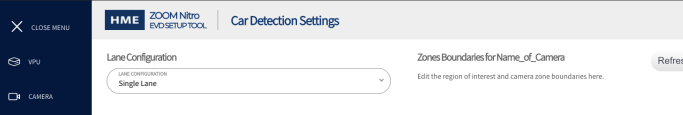

Fig. 4.3
1. Go to Car Detection to configure the Lane Lay-out, choose the appropriate Lane Configuration (Lane Configuration must match the Lane Configuration used on the ZOOM Nitro timer system). The first zone to be defined is the Region of Interest (hereafter referred to as ROI). Within the ROI are other zones that must also be defined. See Fig. 4.3.